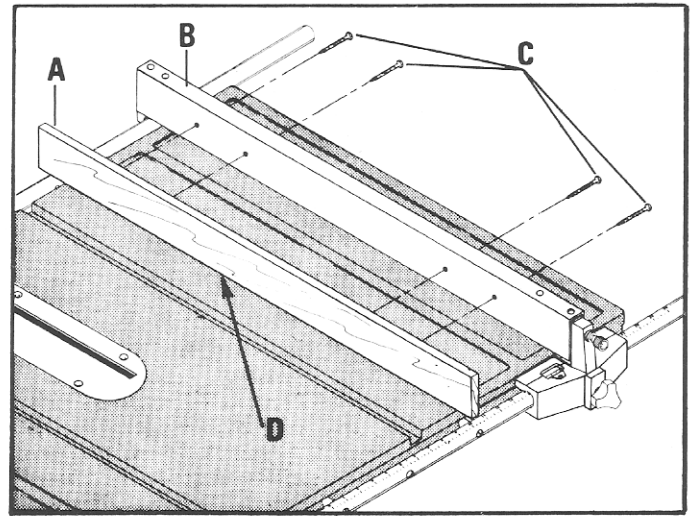

Fig. 37
2. Attach wood facing (A) Fig. 37 to the rip fence (B) using four wood screws (C) inserted through the holes provided as shown in Fig. 37.
3. Care should be taken that the wood facing fits flush to the table surface along edge (D) Fig. 37, so that thin work material cannot slide under.